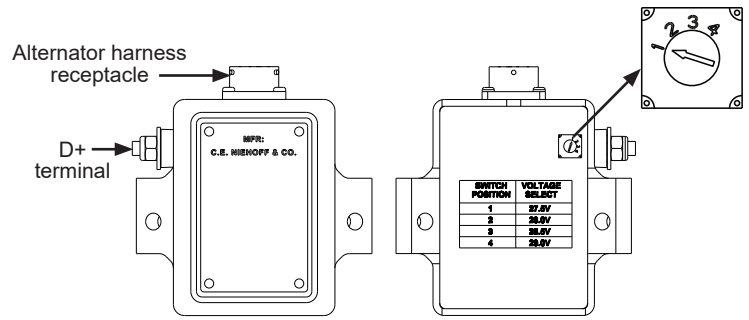

Figure 9: N3043 Regulator Connections and Voltage Selection Switch
- N3043 Regulator has four selectable set points. Before installing regulator, verify appropriate switch setting for your application on bottom of regulator and change if necessary. See Figure 9 and Table 2 for fixed voltage set point options. Contact battery manufacturer or vehicle OEM for charging set point recommendations for your environment or application if necessary.
- Connect regulator D+ terminal (if required by vehicle). D+ terminal provides DC system battery voltage to vehicle (5A maximum) for charge indicator lamp, relay, or multiplex while alternator is producing output. Torque terminal hardware to 3.4 Nm/30 lb. in. See Figure 9.